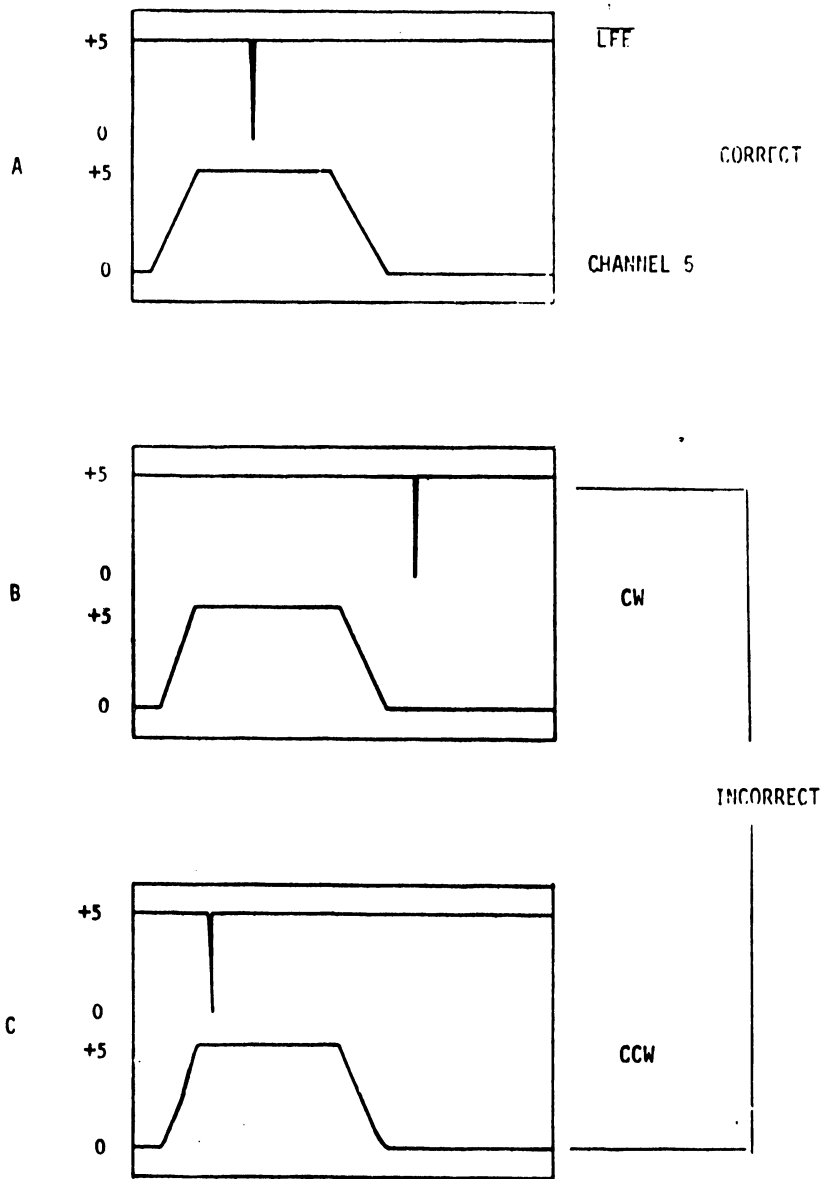

FIGURE 5-21 VFU AND STEPPER MOTOR PHASE CHECK
- 5) The stepping motor and VFU should be in phase. Connect a scope probe (channel 1) to pin  $R_1$  of the 6577 and another probe to pin  $S_2$ . Trigger on channel 1. Key Top of Form continuously. Channel 1 of the scope is the output of channel 5 of the VFU and channel 2 of the scope is the 8th step signal ( $\overline{LFE}$ ) from the motor circuit. The 8 step pulse should appear just left of center of the VFU signal. See Figure 5-21. If signals are incorrect proceed to adjustment section step 7.